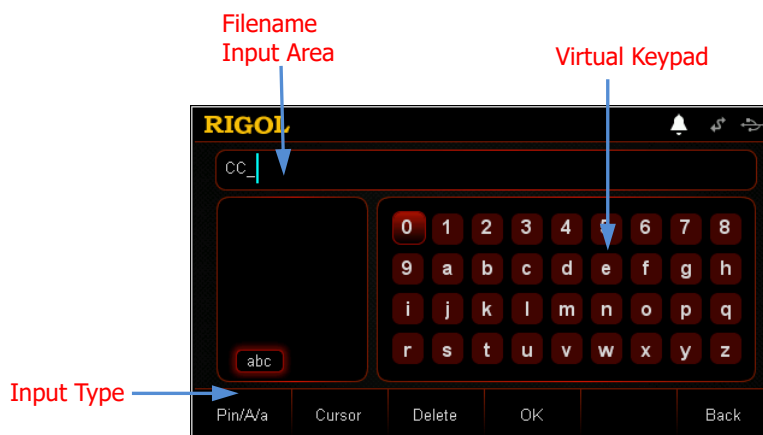

Figure 2-47 Filename Input Interface (lowercase English letters)
2. Press **Save** to enter the filename input interface. By default, the input type is lowercase English letters, as shown in Figure 2-47.